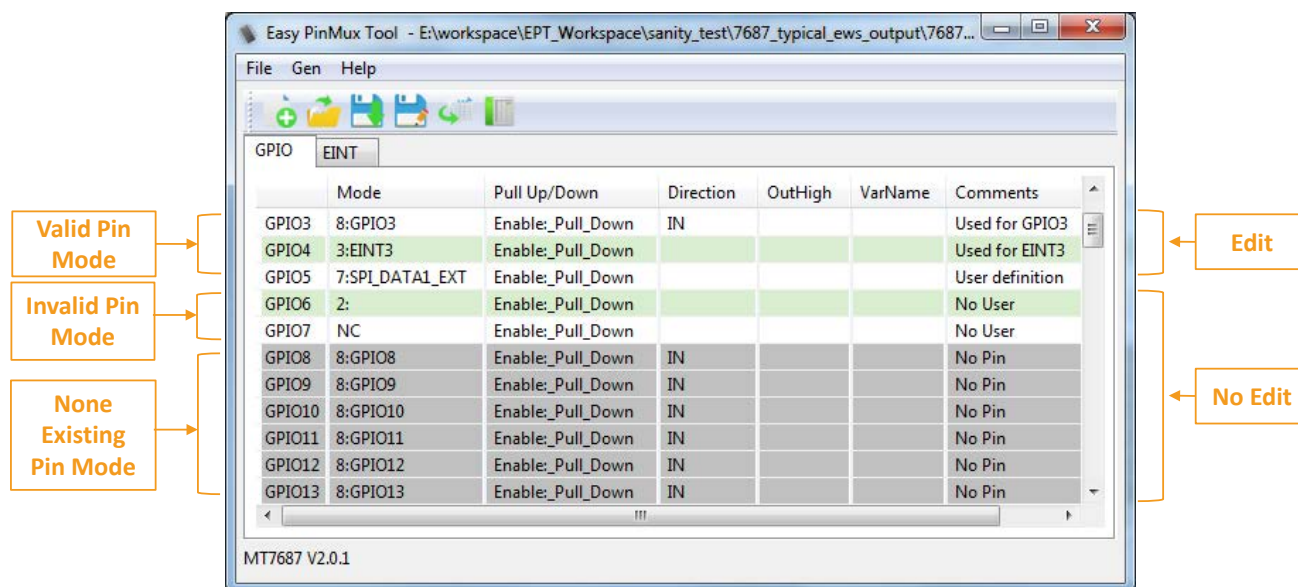

Figure 16. User Information for corresponding GPIO mode
- 1) The **Comments** defines the use of its corresponding pin, as shown in Figure 16.